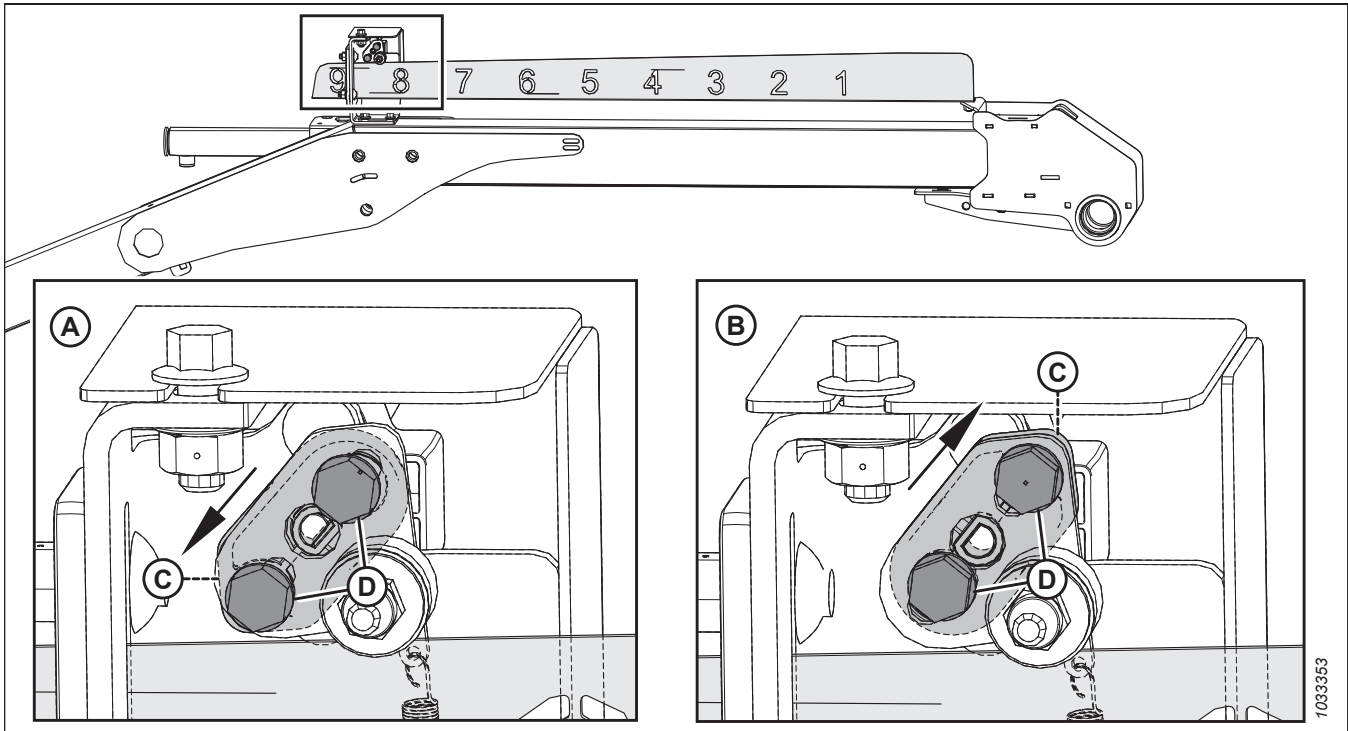

Figure 3.361: Sensor Arm Configurations
3. Check the orientation of sensor arm (C) and hardware (D). Ensure that the sensor arm is configured properly for your machine; refer to Figure 3.361, page 228.